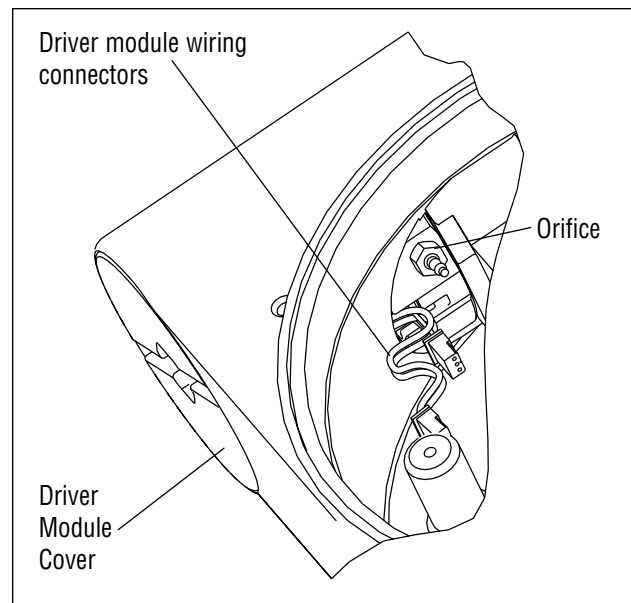

Figure 11: Driver Module Orifice
3. Remove the driver module cover, using a 0.50-inch hex wrench (Figure 11). Do not force the cover. If undue resistance is encountered, use slots to loosen cover.
7. Remove the tubing from the orifice in the driver module assembly to the collector board. Using a 0.25-inch open-end wrench, remove the orifice from the driver module (Figure 11).
8. Remove the two wiring connections that link the driver module assembly to the collector board (Figure 11).
20. Insert the orifice into the threaded hole in the driver module assembly. Tighten with a 0.25-inch open-end wrench (Figure 11). Attach the flexible tubing from the interface plate to this fitting.